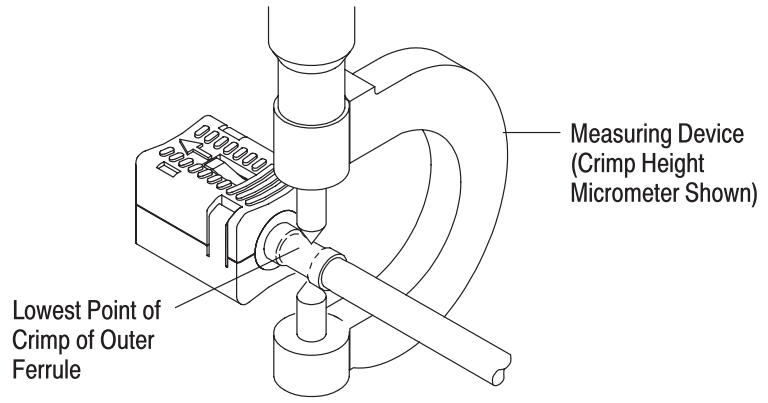

Figure 5
3. The crimp height must be measured across the lowest point of the crimped outer ferrule as shown in Figure 5.